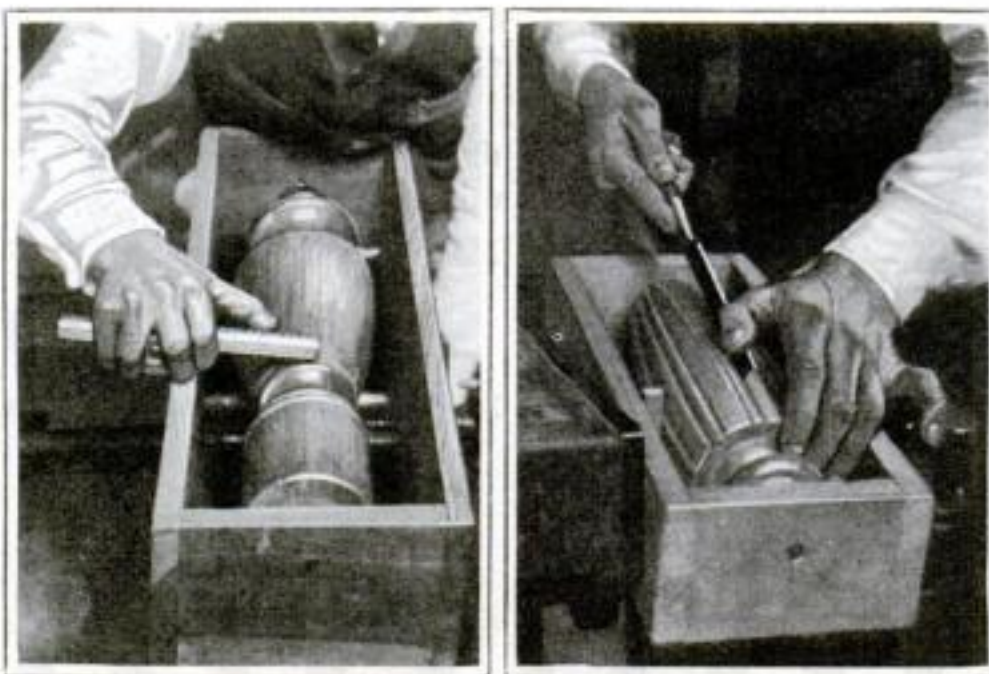

Fig. 2. At the left is shown how the marks for the reeds are scored with a marking gage; at the right is illustrated the method of chiseling out the reeds.
In Fig. 2 (at the left) the screw at one end is much nearer the top of the box than that in the other end. This is because the turned piece is of a larger diameter at one end than at the other; and in order to bring the surface to be reeded level with the top of the box, the end having the greater diameter must be lower than the other.
Now set a marking gage to half the outside width of the box, and gage lines along the entire length of the portion to be reeded at all the division points laid out from the strip of paper as shown at the left of Fig. 2. Let the point of the marking gage project about  $\frac{1}{2}$  in. and hold the block firmly against one side of the box.
**B**Egin chiseling V-cuts on the lines just gaged as indicated at the right of Fig. 2. Use an ordinary  $\frac{1}{2}$ -in. paring chisel, preferably with a long blade that is beveled along its